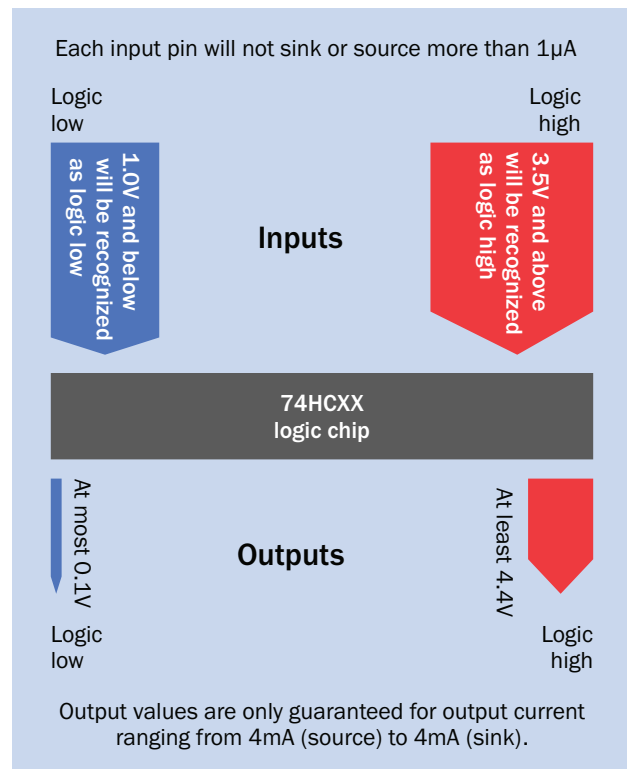

Figure 19-26. To avoid errors, stay within the recommended input ranges for logic chips.
- The acceptable ranges for inputs, and the minimum guarantees for outputs, are shown in Figure 19-26.